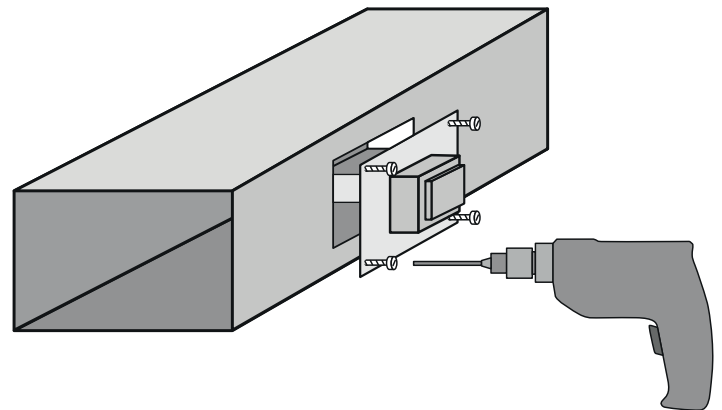

Figure 1
**Step 1.** The preferred location is in the supply air duct leaving the air handler. Be sure to pick a location before any branch duct take-offs. Verify that there is sufficient duct depth to allow clearance for the tube. C-Tube = 6"(L), D-Tube = 10"(L), E-Tube = 14"(L) (See Figure 1)
- Screw the model 100 or 200 onto the duct using sheet metal screws (See Figure 1).